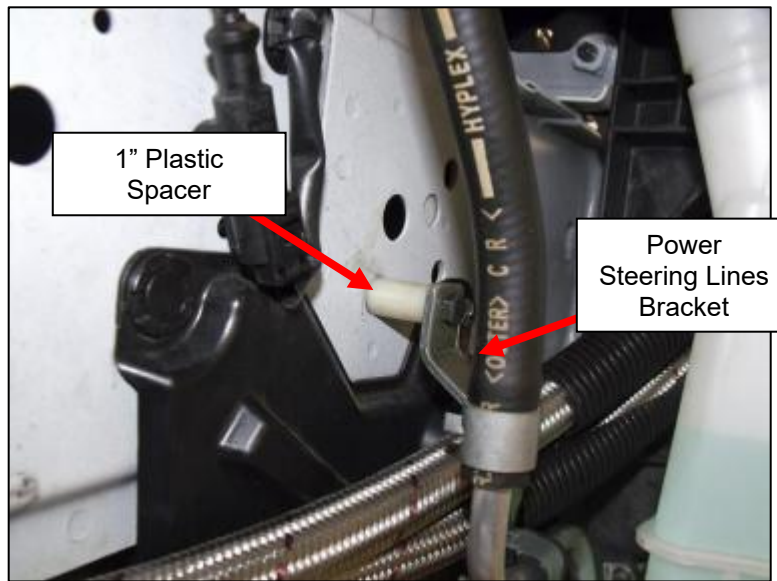

Figure 16
28. Unbolt the bracket securing the Power Steering Cooler Lines to the passenger side frame rail. *Figure 16*
29. Route the Oil Cooler Lines between the Power Steering Cooler Lines and the frame rail. *Figure 16*.
30. Locate the 1" Plastic Spacer and M6 x 40mm Bolt. Insert the 1" Spacer between the Power Steering Bracket and the frame rail. Secure the bracket with the M6 Bolt. *Figure 16*.